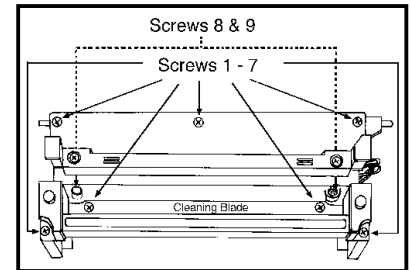

Figure 1
- 2 a. Remove the 7 screws (screws 1-7) on unit top (Fig 1).